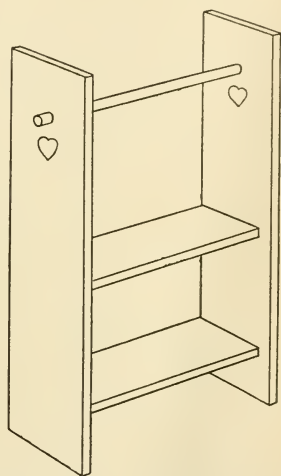

FIG. 138. — A Wash-stand.
**A Wash-stand** can be made for the bath-room and each of the bed-rooms similar to Fig. 138. The sides for this should be five inches high by an inch and one-quarter wide, and the shelves one by three inches. Fasten the lower shelf three-quarters of an inch above the base, and the top shelf at a height of two and one-half inches. When the stand has been put together, fit a round stick, about an eighth of an inch in diameter, in holes made in the sides with a gimlet (see illustration). This forms the towel-rack. Hang a small drapery over the lower portion of the stand.